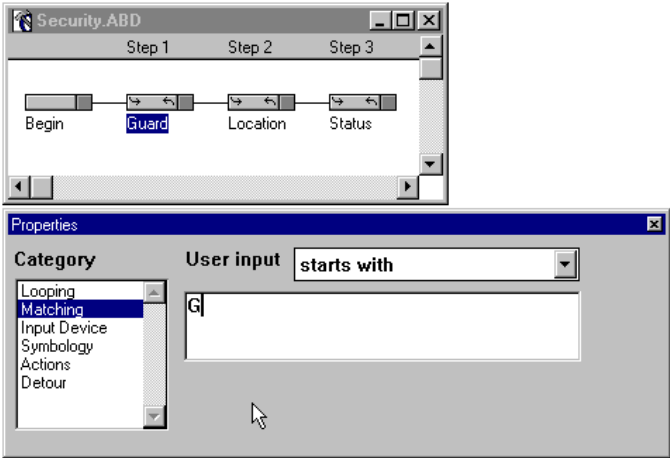

Figure 3-22 Matching Property - Starts With G
- 20. Click in the edit box and enter a **G** (Figure 3-22). Any entry that starts with a **G** is now an acceptable entry for the “Guard” Handler.